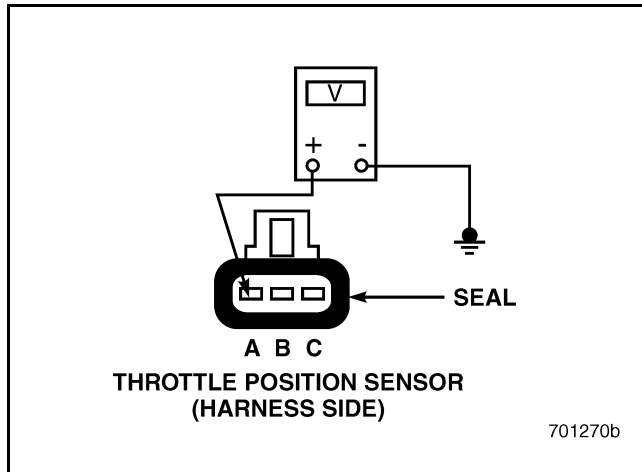

Figure 544
2. Disconnect the harness connector from the Throttle Position (TP) Sensor.
4. Measure the voltage between pin A on the harness side of the TP Sensor and a good ground (see Figure 544).